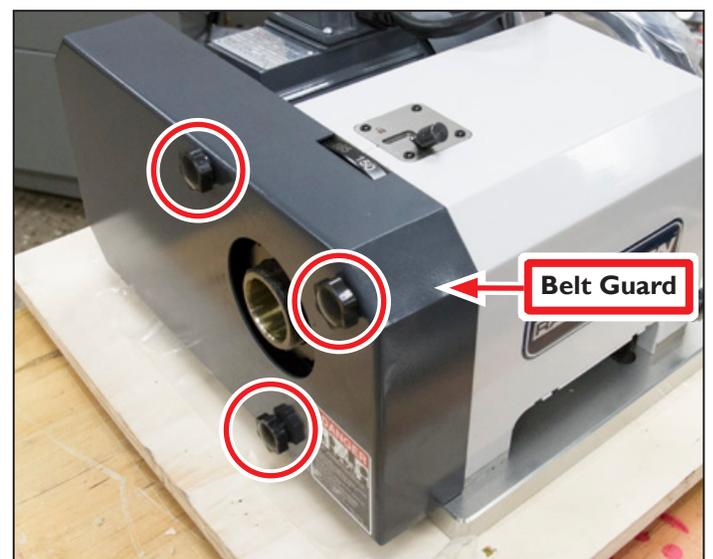

Figure 2.6
3. Remove three thumbscrews securing Belt Guard to RapidTurn (see **Figure 2.6**); remove Belt Guard and set all aside.